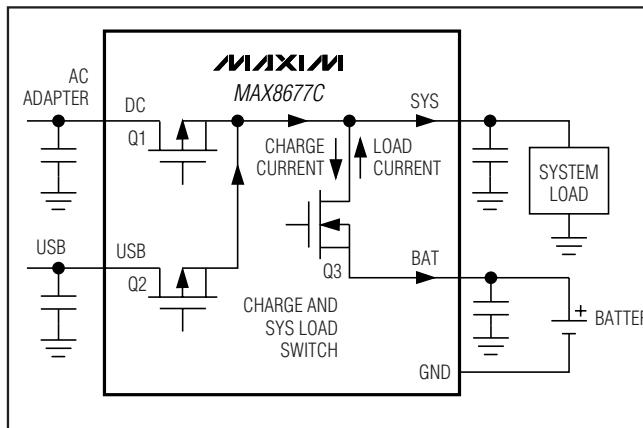

Figure 4. Smart Power Selector Block Diagram
The MAX8677C Smart Power Selector seamlessly distributes power between the external inputs, the battery, and the system load (Figure 4). The basic functions performed are:
An internal 40m Ω MOSFET connects SYS to BAT (Q3, Figure 4) when no voltage source is available at DC or USB. When an external source is detected at DC or USB, this switch is opened and SYS is powered from the valid input source through the input limiter.
The input voltage limiter is essentially an LDO regulator. While in dropout, the regulator dissipates a small I^2R loss through the 0.2Ω MOSFET (Q1, Figure 4) between DC and SYS. With an AC adapter or USB source connected, the input limiter distributes power from the external power source to the system load and battery charger. In addition to the input limiter's primary function of passing power to the system and charger loads at SYS, it performs several additional functions to optimize use of available power:
- **Input Voltage Limiting.** If an input voltage is above the overvoltage threshold (6.9V typ), the MAX8677C enters overvoltage lockout (OVLO). OVLO protects the MAX8677C and downstream circuitry from high-voltage stress up to 14V at DC and 8V at USB. In OVLO, VL remains on, the input switch that sees overvoltage (Q1, Q3, Figure 4) opens, and the appropriate power-monitor output (DOK, UOK) is high impedance, and \overline{CHG} is high impedance.
If both DC and USB see overvoltage, both input switches (Q1 and Q2, Figure 4) open and the charger turns off. The BAT-SYS switch (Q3, Figure 4) closes, allowing the battery to power SYS.
An input is also invalid if it is less than BAT, or less than the DC undervoltage threshold of 3.5V (falling). With an invalid input voltage, SYS connects to BAT through a $40m\Omega$ switch (Q3, Figure 4).
The total current through the switch (Q1 or Q2 in Figure 4) is the sum of the load current at SYS and the battery charging current. The limiter clamps at 4.35V, so input voltages greater than 4.35V can increase power dissipation in the limiter. The limiter power loss is $(V_{DC} - 4.35) \times I$, but not less than $I^2 \times 0.2\Omega$. Also note that the MAX8677C turns off any input that exceeds 6.9V (nominal).